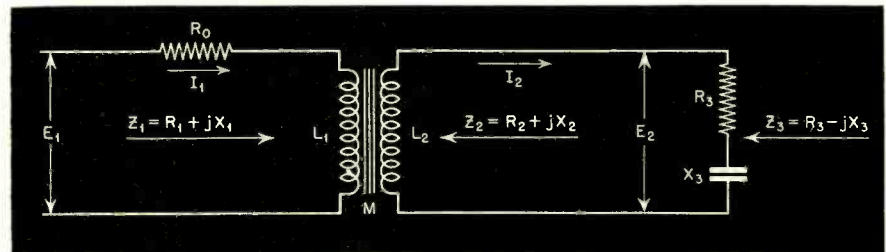

FIG. 5
**Solution:** Let Fig. 5 represent the equivalent circuit of an input or interstage transformer, and in which  $Z_1$  is the primary impedance with secondary open circuited, and  $Z_2$  the secondary